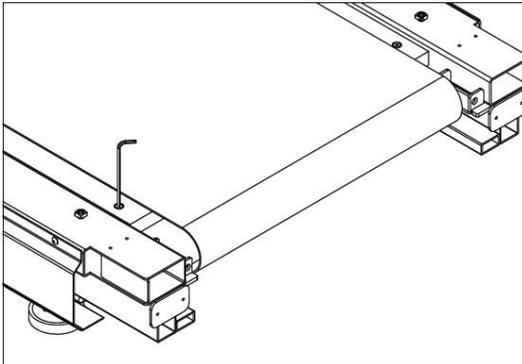

Figure 4.6.4
4.6.5 As shown in Figure 4.6.4, use the No. 4 L-type hexagonal wrench to remove the running plate fixing screw. Set off the running board; choose to replace the running board or running belt. To change the cushion, as shown in Figure 6.6.5, and then remove the 8 buffer to replace the new, assembled and then removed in order to replace.